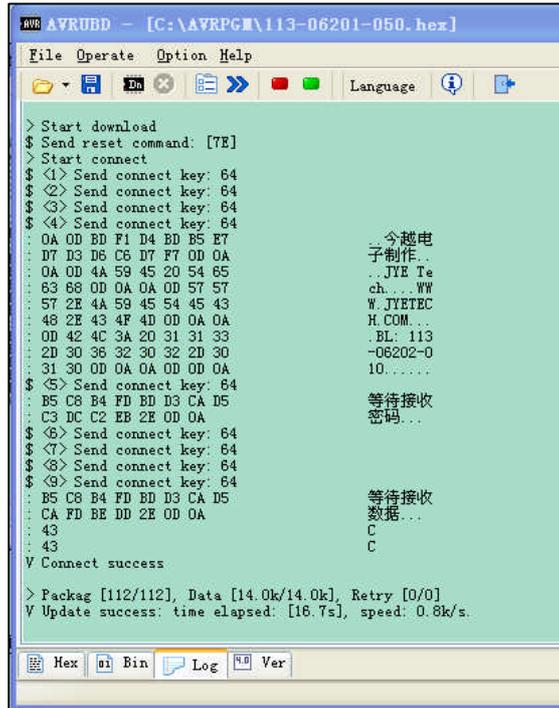

Fig. 9
- 9) Otherwise, Download is successful if you see screen like Fig. 9.